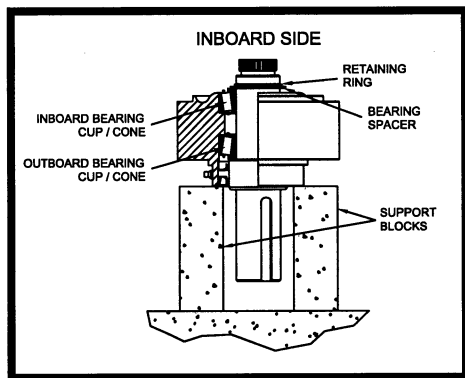

Figure 6.3.3.1 Output Endbell
2. Support hub to expose the inboard side of the endbell. Reference Figure 6.3.3.1.